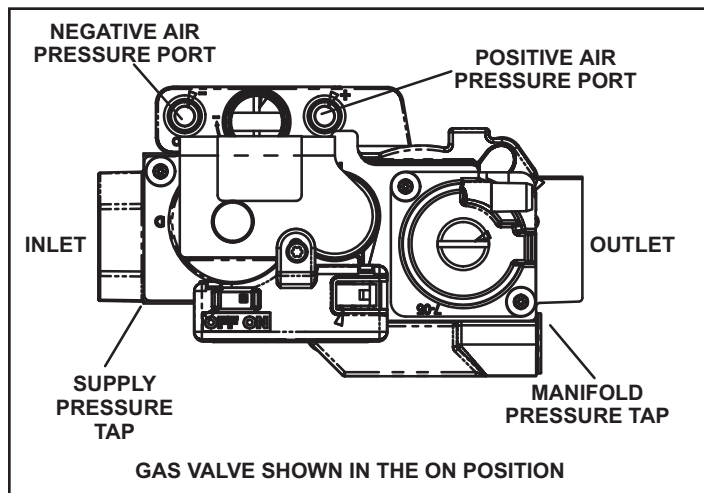

Figure 48. Gas Valve
6. Move gas valve switch to OFF. See **Figure 48**.
8. Move gas valve switch to ON. See **Figure 48**.